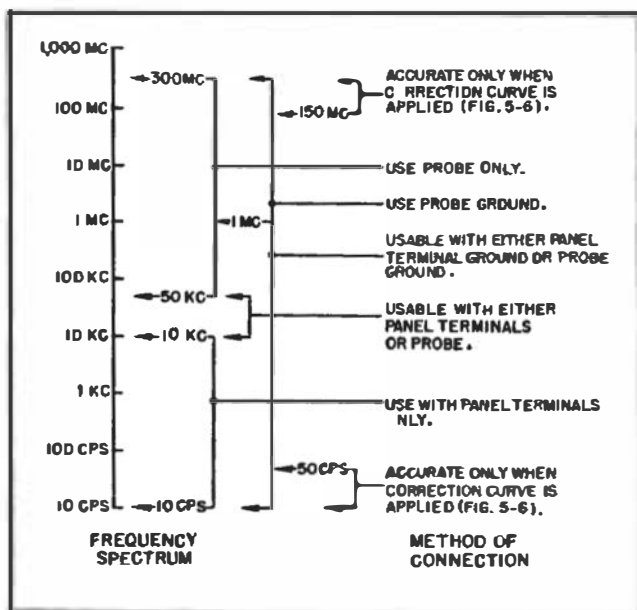

Figure 2-5. A-C Input Connection Variations with Frequency
(10) The foregoing a-c input limitations are summarized diagrammatically in figure 2-5.